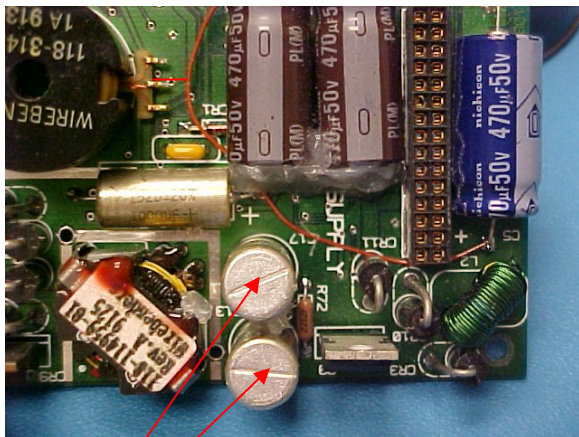

Figure 1
1. Remove and replace C13 and C17 with Item 1 as shown in Figures 1 and 2.